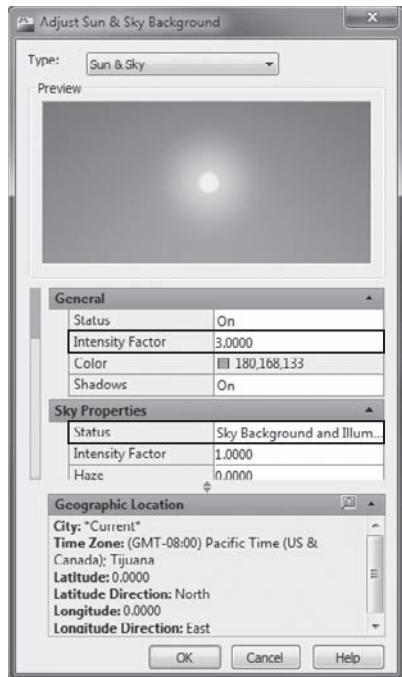

FIGURE 17.23 The Adjust Sun & Sky Background dialog box
Doing so opens the Adjust Sun & Sky Background dialog box, as shown in Figure 17.23.
4. In the Sky Properties rollout, change the Intensity Factor value to 3; then expand the Status drop-down list, and choose Sky Background and Illumination (see Figure 17.23).